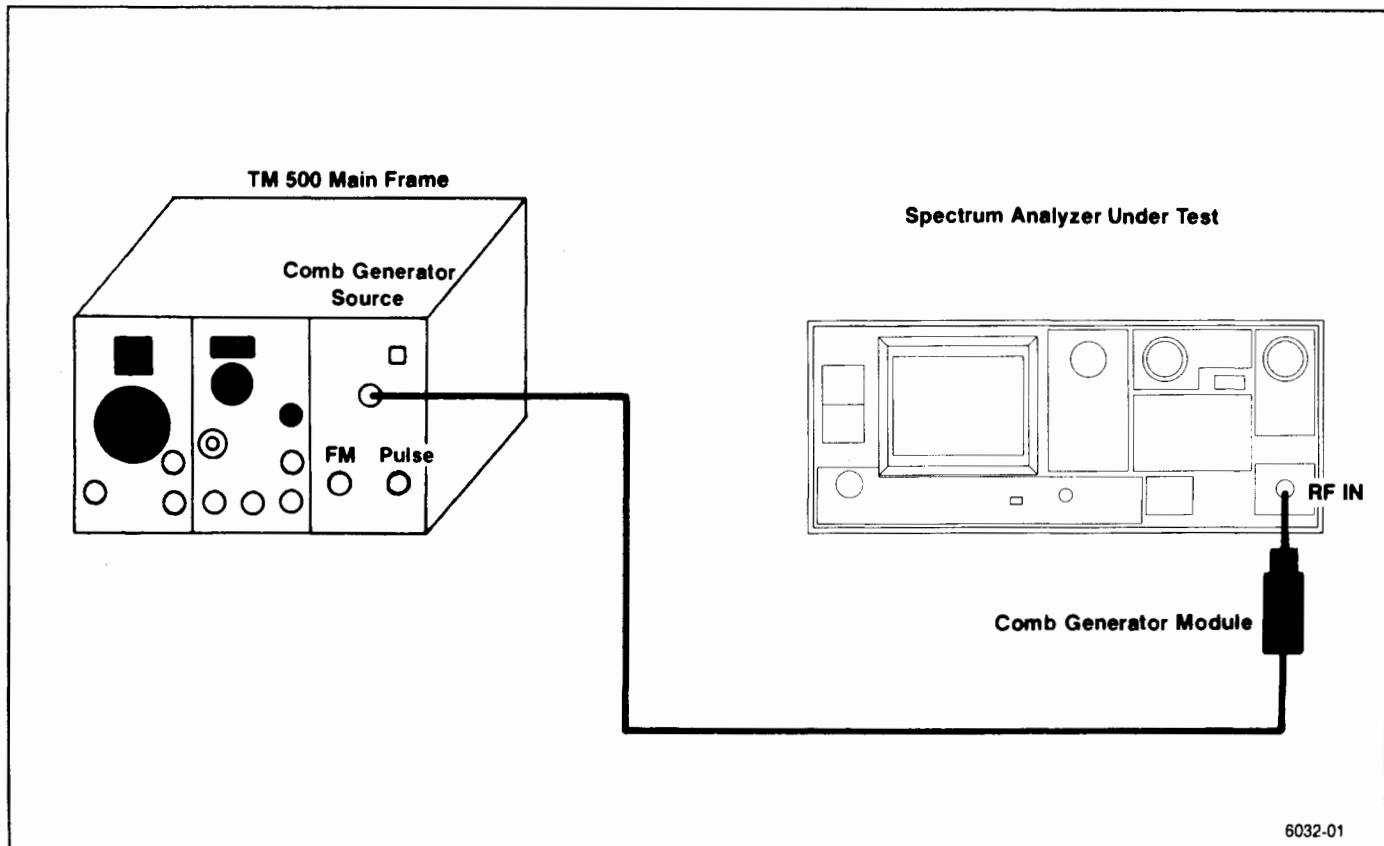

Figure 4-3. Test equipment setup for checking center frequency accuracy.
(1) Use a Frequency Counter and a Prescaler to measure the fundamental output frequency of the Comb Generator (Comb Generator source output excluding the Comb Generator Module).
(2) Make a note of the measured frequency, which is approximately 500 MHz. This is the fundamental frequency referred to in Table 4-2, and will be used to determine each center frequency checked.
(3) Connect the test equipment as shown in Figure 4-3.
(4) Set the Spectrum Analyzer controls as follows, using the Data Entry keypad when appropriate: